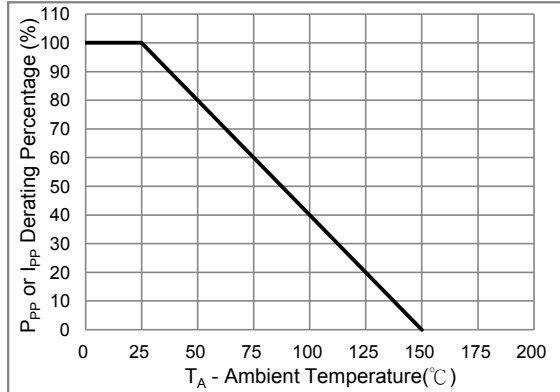
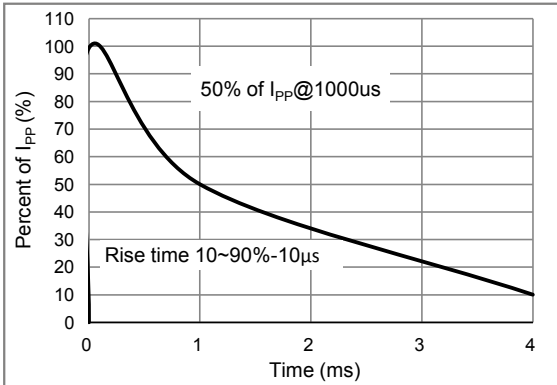

Fig.2 Derating Curve
Fig.3 10/1000us Pulse Waveform
1. Non-repetitive current pulse, per Fig. 3 and derated above $T_A=25^\circ\text{C}$ per Fig. 2.